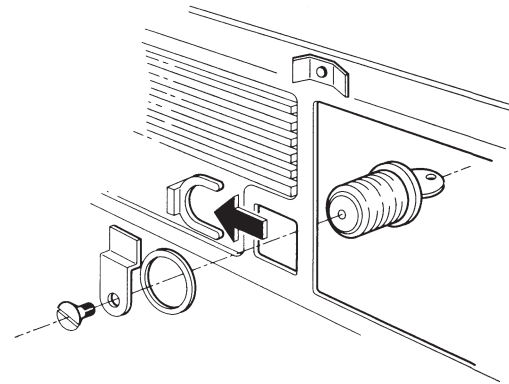

Figure 7-18. Removing the Security Lock (Interior View).
3. Remove the screw and clip that secure the security lock assembly to the system unit cover (Figure 7-18).